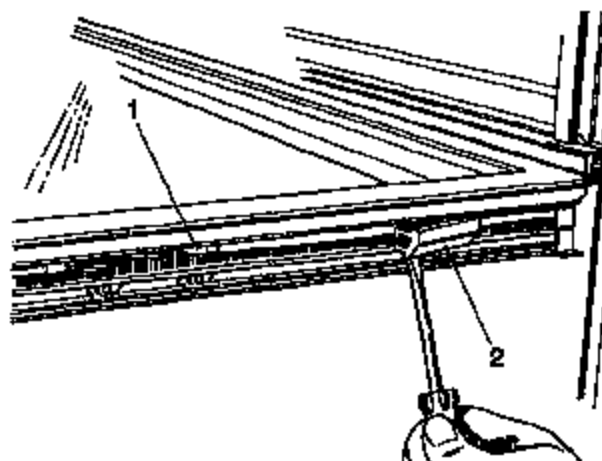

Figure 1-4 Removing Wedge Spacer Blocks
3. If the wedge spacer block (3) is loose, remove the block out of the channel with a screw driver. See Figure 1-4.